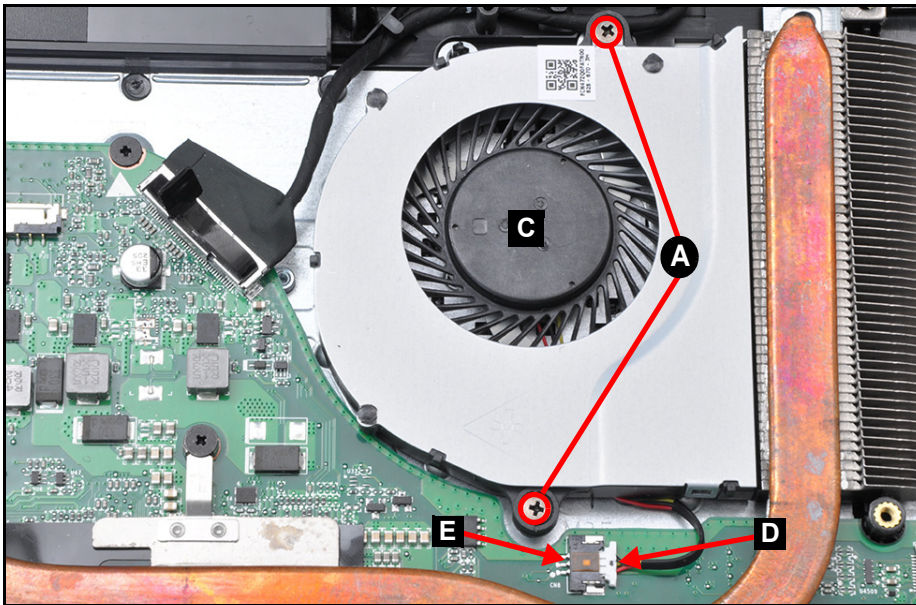

Figure 3-31. Fan Removal
2. Disconnect the fan cable (D) from the mainboard connector (E) (Figure 3-31).
3. Remove two (2) screws (A) securing the fan in place (Figure 3-31).